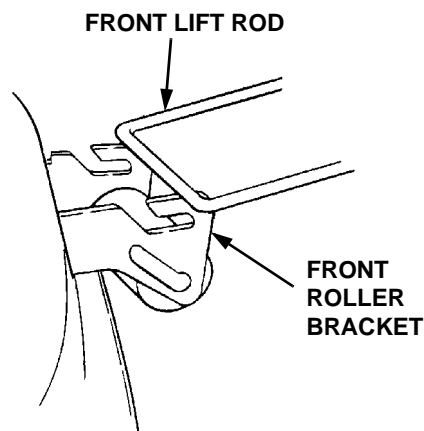

Figure 47
8. Raise the front lift rod upward and slide the mower deck rearward. Lower the front lift rod so it rests on the front roller bracket of the deck, forward of the slots (See Figure 47).